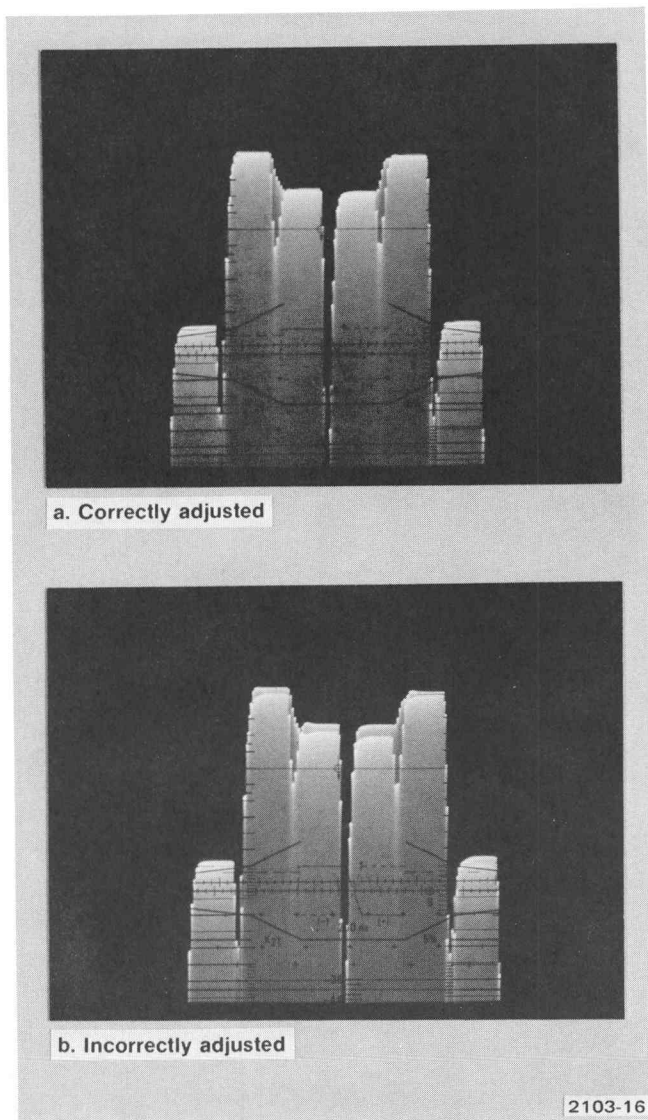

Fig. 4-6. Quadrature Phase waveform monitor display.
b. Adjust—L365 (Quad-Phase) for best waveform overlay (see Fig. 4-6).